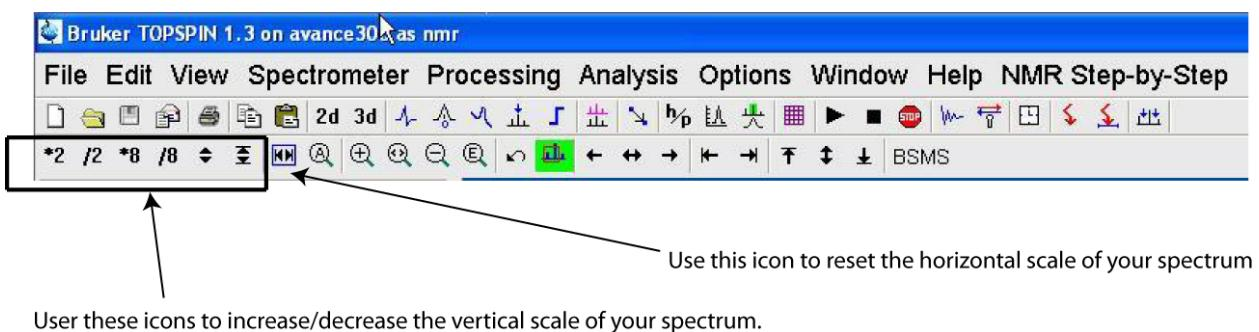

Figure 21 Buttons for vertically and horizontally adjusting the spectrum.
(18) At this point it is important to note where the horizontal and vertical adjustments can be found in Topspin menu-bar. Figure 21 (below) illustrates where these buttons are found. All of the vertical scale adjustments are done with the buttons shown; however, the horizontal scale is adjusted by left clicking the mouse, dragging the cursor over the area of interest, and then left clicking one more time. The horizontal scale can be reset to the full window by left clicking on the icon indicated below. User should play with these buttons to get comfortable with their use.